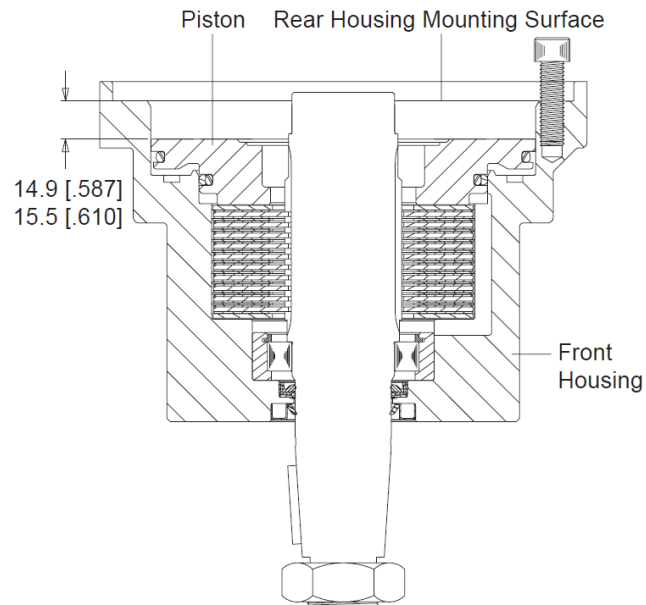

Figure 5
- A. Before installing the new disk assembly, sort the disk stampings (18 & 19) by measuring the thickness. The disk stampings come in thicknesses of .030 (.76mm), .050 (1,3mm), .070 (1,8mm). Nine .050 (1,3mm) disk stampings and three .070 (1,8mm) disk stampings will be required for the disk assembly. The disk stampings may be installed in any order as long as one .050 (1,3mm) disk is used last. Begin the installation by placing one disk stamping (18) into housing making sure that lugs or splines engage those in housing (15). Install one friction disk (17) engaging splines on disk with those on shaft. Alternate disk stampings and friction disks until all disks and disk stamping (19) are installed. Install the .050 (1,3mm) disk stamping lastly on top of disk assembly.
- B. Install small O-Ring seal (5) and large O-Ring seal (7) into corresponding grooves in piston (20). Install small seal (6) and large seal (8) in corresponding grooves over O-Ring seals. Thoroughly coat seals and sealing surfaces of housing (15) with dean oil. With large O.D. side of piston (20) facing up, install piston (20) into housing (15) and evenly press piston down making sure not to pinch seals. Firmly press the piston down to seat all components. Then, using Figure 5 as a reference, measure the stack up of the assembly. The measurement must be between .587 - .610 (14,9 - 15,5 mm). If the measurement is not within these specifications, remove the piston (20) from the housing, remove the top disk stamping and install a .030 (.76mm) or .070 (1,8mm) disk stamping to bring the measurement within the specifications. Reinstall the piston, firmly press it down and remeasure the stack up of the assembly to see that measurement falls within the specifications.